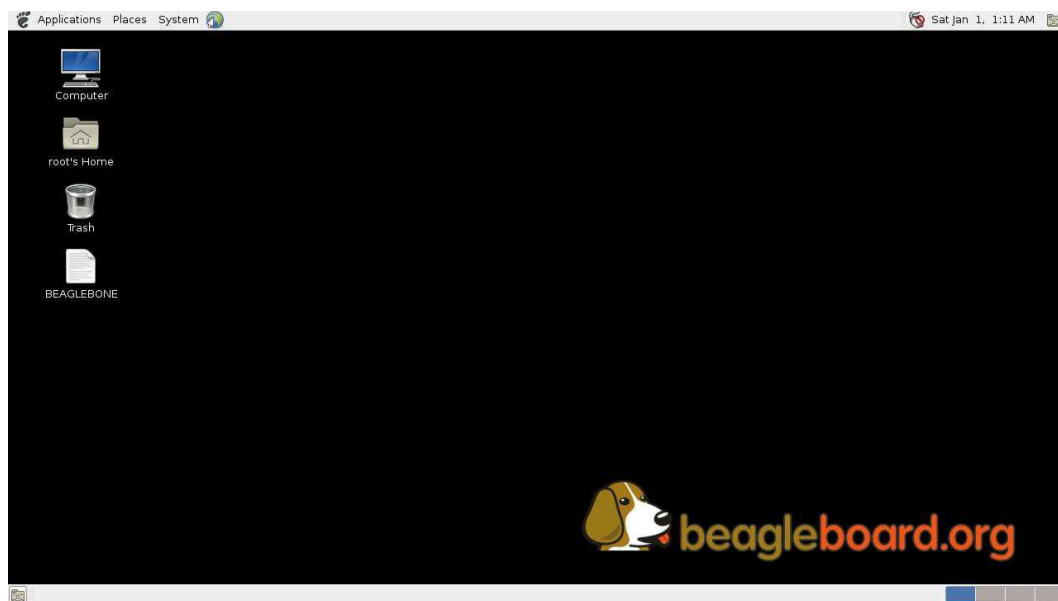

Figure 16 Desktop Screen
- c. After a minute or two the desktop will appear. It should be similar to the one shown in **Figure 16**. HOWEVER, it will change from one release to the next, so do not expect your system to look exactly like the one in the figure, but it will be very similar.
- d. And at this point you are ready to go! **Figure 16** shows the desktop after booting.